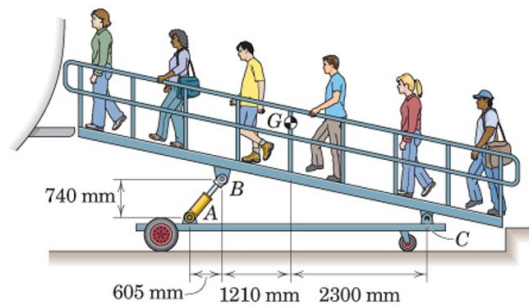

Fig. 4
Q. No. 4 The ramp (Fig. 4) is used as passengers board a small commuter airplane. The total mass of the ramp and six passengers is 750 kg with mass center at G. Determine the force in the hydraulic cylinder AB and the magnitude of the pin reaction at C.